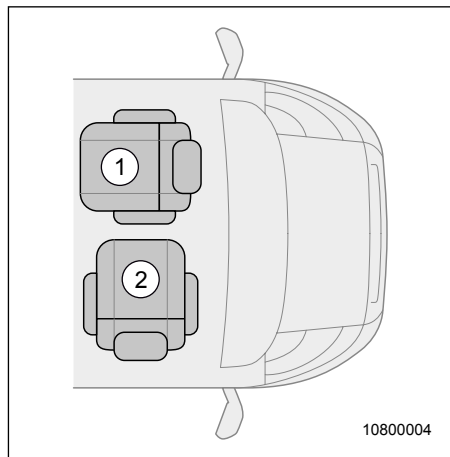

Fig. 20 Vehicle seat position
1. Turn the left driver cabin seat (Fig. 20, Pos. 1) by 180° to the living area.
2. Turn the right driver cabin seat (Fig. 20, Pos. 2) by 90° to the living area.